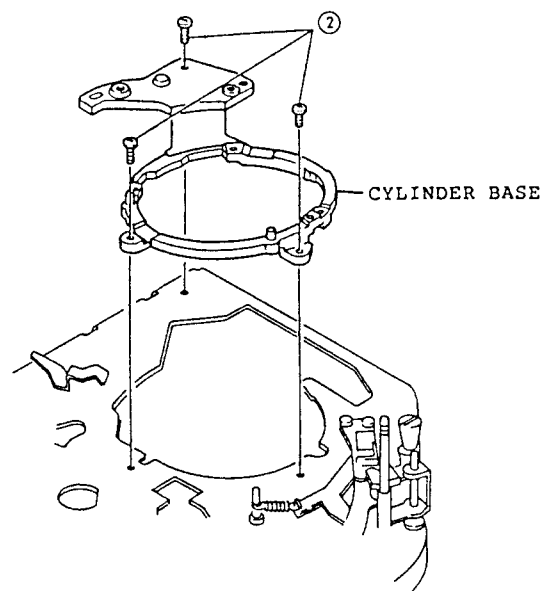

Fig. 2-92
2. Remove three (3) screws holding the cylinder base. (See Fig. 2-92)